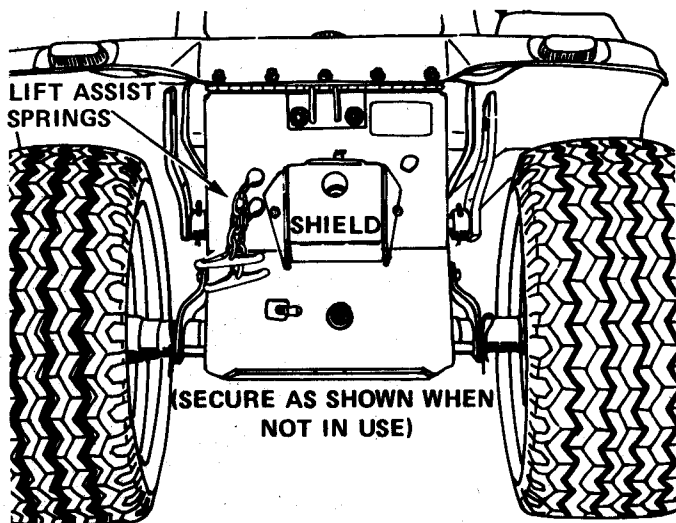

Figure 8
6. Secure PTO shield as shown in Figure 8.